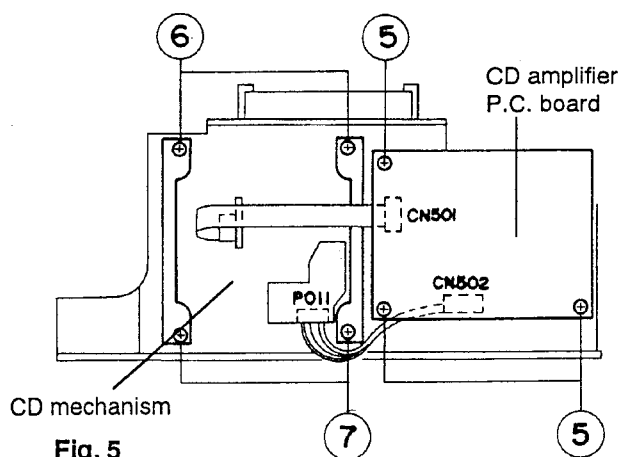

Fig. 5
■ CD Amplifier P.C. Board (refer to Fig.5)
1. Remove the three screws ⑤ retaining the CD amplifier P.C. board from the CD player chassis.
■ CD Mechanism Assembly (refer to Fig.5)